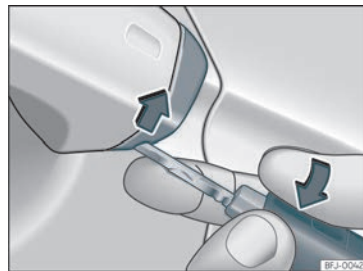

Fig. 74 Driver door handle: lever the cover off
- Insert the key shaft into the lower opening in the cover on the driver door handle >>> Fig. 74 then remove the cover upwards.